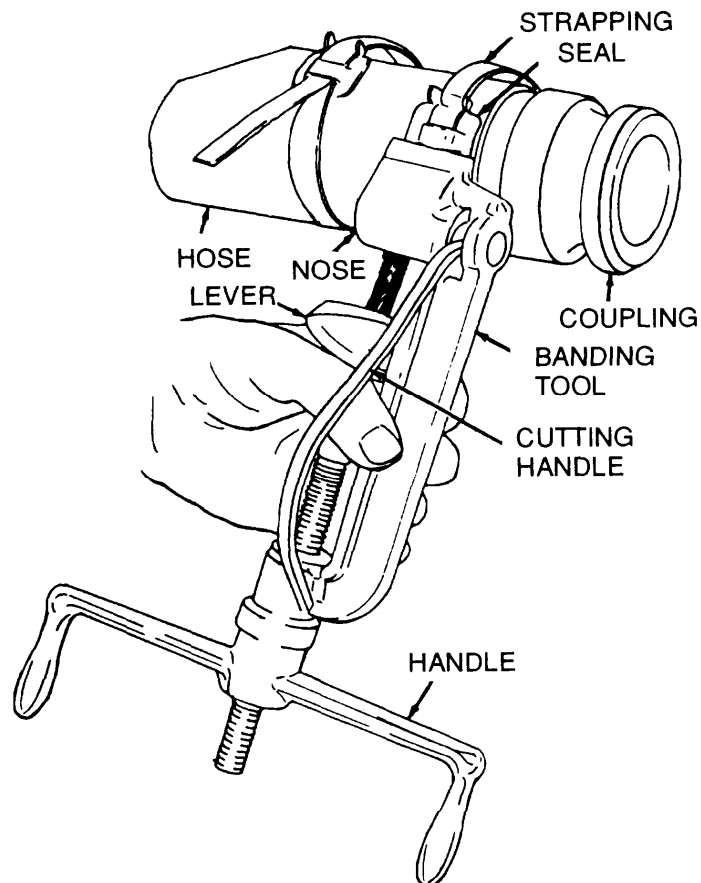

Figure 4-4. Hose Assembly Repair.
c. Repair. (Refer to Figure 4-4.)
- (1) Cut band and remove damaged coupling.
- (2) If hose is damaged within 1 foot (30.48 cm) of end of hose, cut strapping and remove coupling.